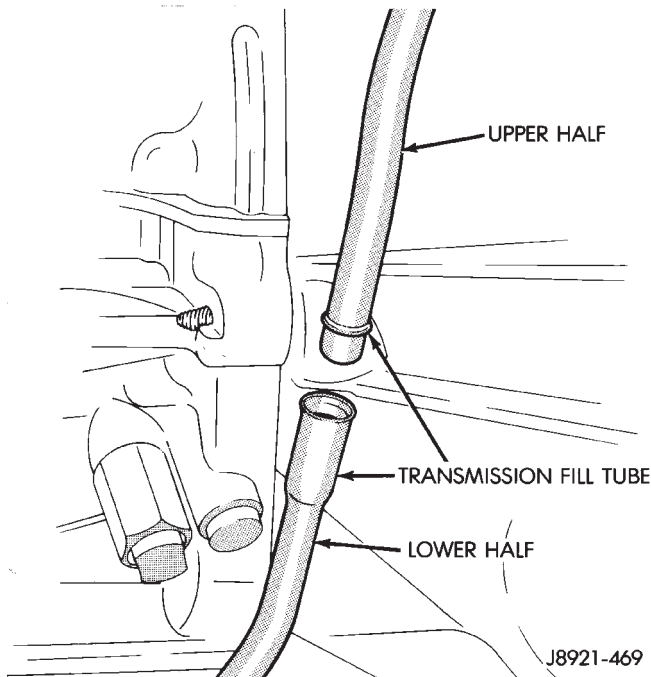

Fig. 52 Two-Piece Transmission Fill Tube
- (1) Raise vehicle.
- (2) Drain transmission fluid and reinstall oil pan drain plug.
- (3) Remove upper half of transmission fill tube (Fig. 52).